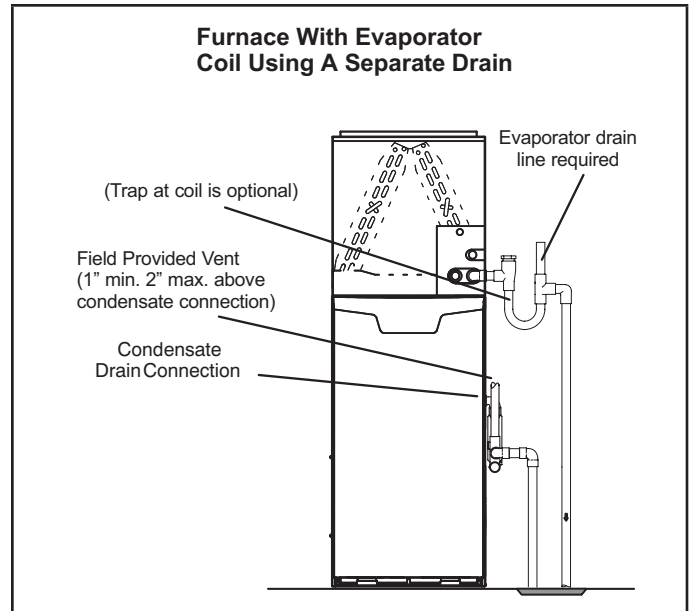
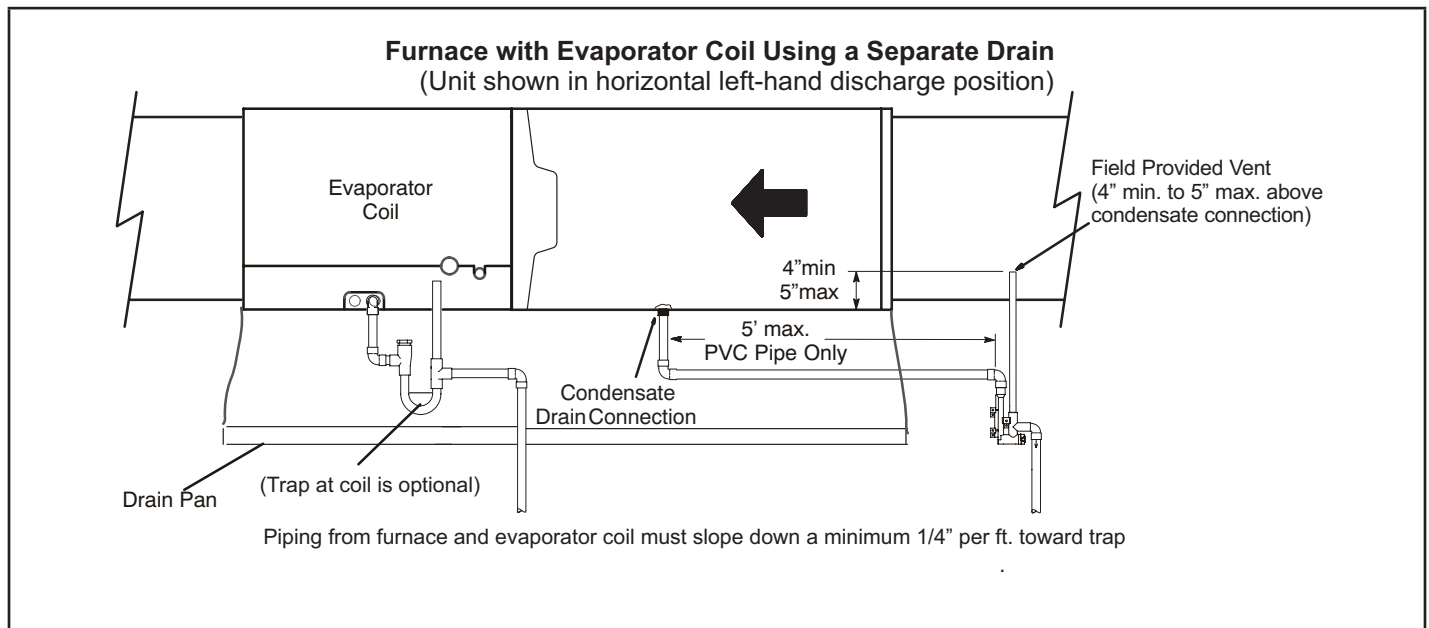
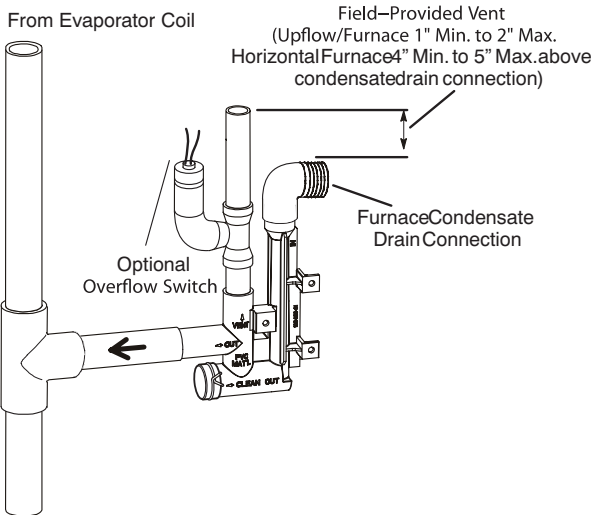
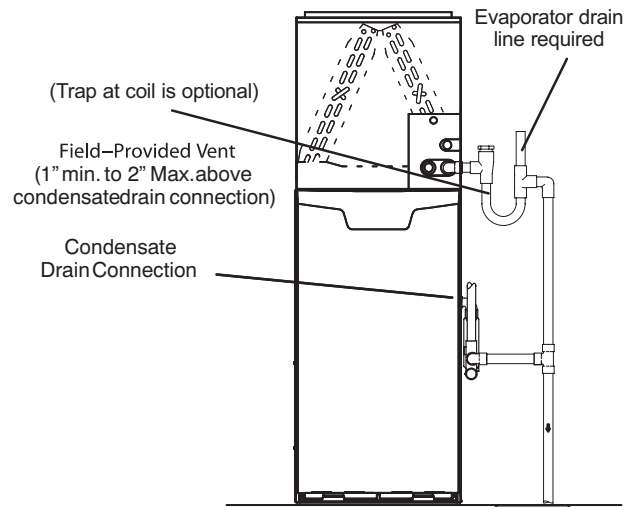

FIGURE 37
FIGURE 38
FIGURE 39
FIGURE 40
- 5 - FIGURE 37 and FIGURE 38 shows the furnace and evaporator coil using a separate drain. If necessary the condensate line from the furnace and evaporator coil can drain together. See FIGURE 39, FIGURE 40 and FIGURE 41. *Upflow furnace* (FIGURE 40) - In upflow furnace applications the field provided vent must be a minimum 1" to a maximum 2" length above the condensate drain outlet connection. Any length above 2" may result in a flooded heat exchanger if the combined primary drain line were to become restricted. *Horizontal furnace* (FIGURE 41) - In horizontal furnace applications the field provided vent must be a minimum 4" to a maximum 5" length above the condensate drain outlet connection. Any length above 5" may result in a flooded heat exchanger if the combined primary drain line were to become restricted.